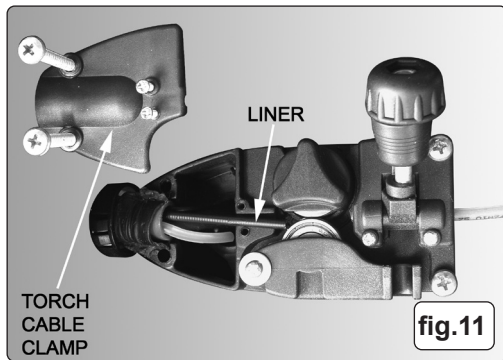
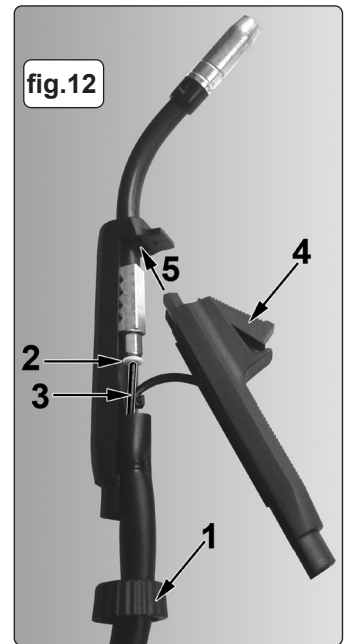

fig.11
fig.12
7.6.1. A worn or damaged wire liner will seriously affect the performance of the welder and should be immediately replaced. First wind the wire back onto the spool and secure it. Remove the four screws securing the torch cable clamp to the wire feed unit (fig.11) and take off the clamp.
7.6.3. Take hold of the back end of the moulding which contains the switch and pull it outwards and downwards to release it from the other moulding as shown in fig.12.
- 7.6.5. Insert the new liner into the torch cable and secure it in the wire drive unit by replacing the torch cable clamp. See fig.11. Insert the other end of the liner through the locking ring and fully into the brass nut in the torch head, see 2 in fig.12.